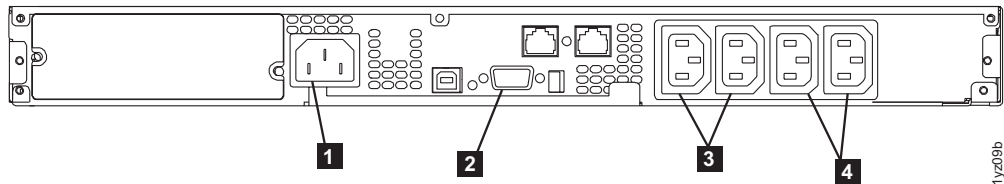

Figure 71. Uninterruptible power supply 5115 (rear view)
4. At the front of the UPS 5115, install the two mounting screws (1).
- At the back of the UPS 5115, reconnect the power cable of the SAN Volume Controller to load segment 2 receptacle **4**. See Figure 71.
- Reconnect the signal cable to the communication port **2**. See Figure 71.
The UPS 5115 should now be in standby mode with the SAN Volume Controller offline. All indicators that are shown in Figure 71 should be off.